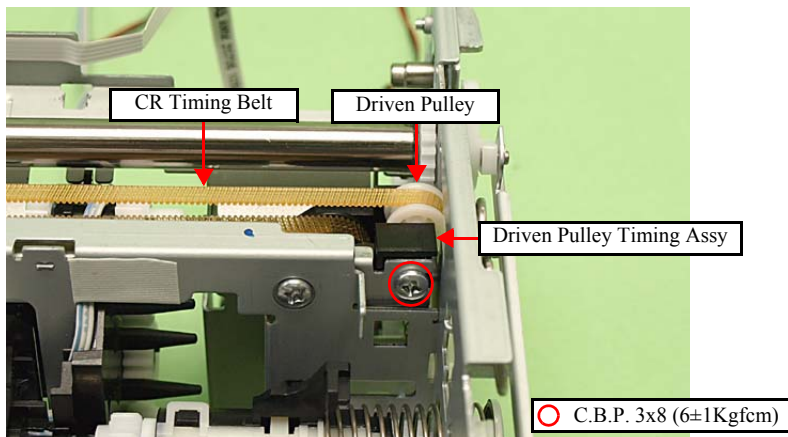

Figure 4-131. Removing the Driven Pulley Timing Assy
5. Remove the screw (x1) that secures the Driven Pulley Timing Assy, and remove the Driven Pulley Timing Assy. (See Fig. 4-131.)